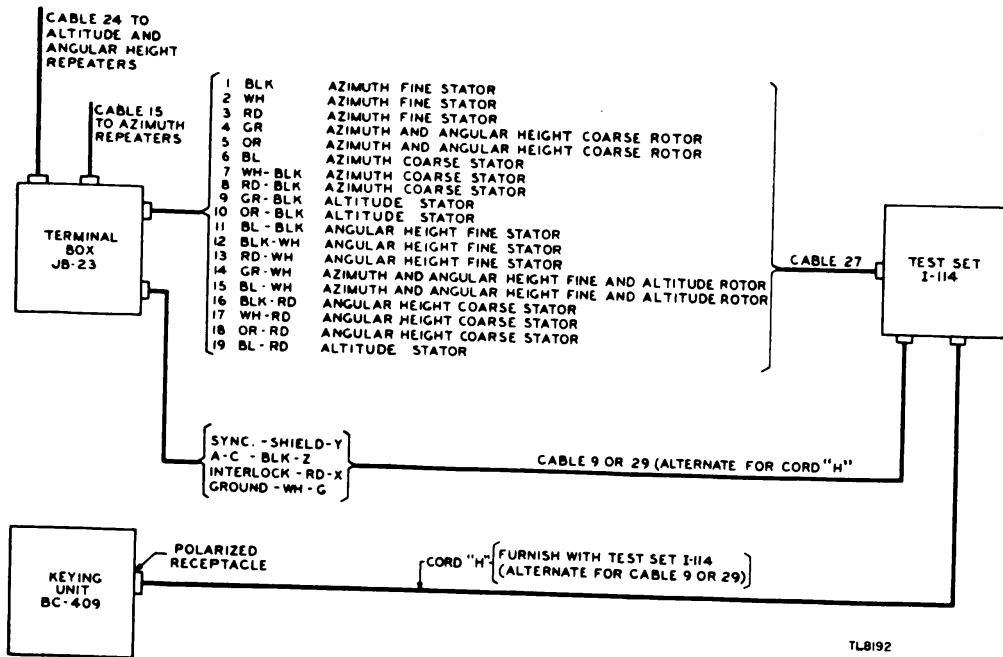

Figure 20. Test Set I-114, connections.
**b. Locating and Connecting.** Figure 20 is a functional diagram showing the location of the test set in the test circuit. Locate the test set near an appliance outlet, such as the outlet on the keyer, and close enough to the trailer mount to permit easy communication between the man making
the test and the man operating the controls on the trailer. Connect the test set as shown in figure 20. Alternating current may be connected to the test set either by cable 9, Test Cord CD-520, or test cord H. When the test set is connected, one of its a-c receptacles will not be used. Avoid short-circuiting the live terminals in the unused male receptacle. The setting of the switches on the test set select the repeater, and stator windings of the repeater under test, as shown in the table below.
(1) TO MEASURE VOLTAGES OF 150 VOLTS OR LESS (TEST SETS HAVING SERIAL NUMBER 243 OR LOWER). Connect the alligator clips of cord J across the voltage to be measured, and set the voltmeter switch in the VM position.
(2) TO CHECK FOR GROUNDED CABLE LEADS. Connect alternating current to the test set (fig. 20). Cable 27 need not be connected. Set the voltmeter switch in the VAC position, and operate the toggle switch on the test set. Touch the insulated clip of cord J to the lead in question. If the voltmeter does not deflect, the lead is not grounded. If the voltmeter deflects, note the reading. Move the voltmeter to the VM position and note the voltmeter reading. If the two readings are the same, the lead is grounded through little or no resistance. If the first reading is less than the second, the lead is grounded through a resistance path.
(a) Connect alternating current to the test set (fig. 20). Cable 27 need not be connected. Set the voltmeter switch in the VAC position, and operate the toggle switch. Disconnect both ends of the lead under test.